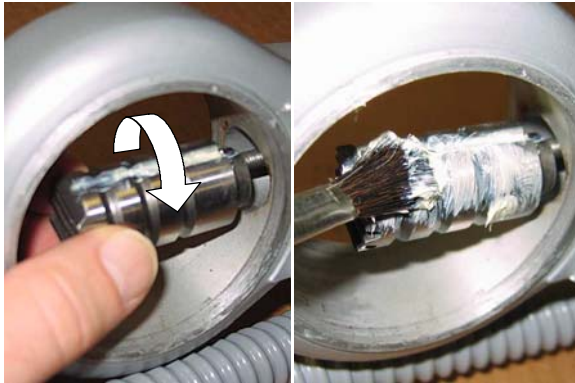

Fig. 12
3. Thread the new plunger onto the rod then grease the plunger (Figure 12).